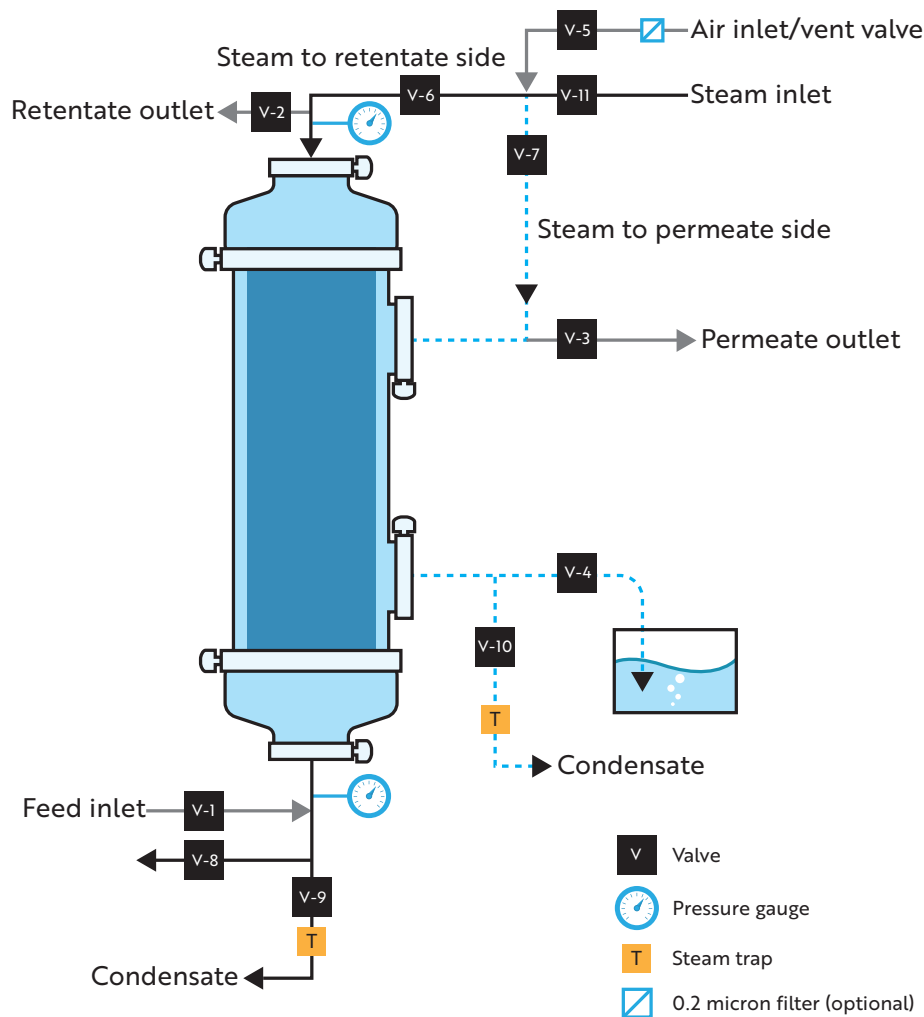

Figure 11: Typical configuration for integrity testing SepraPor® post-SIP.
16. Integrity test the filter post-sterilization is optional but recommended and sometimes required in critical applications. If performing an integrity test, close all valves except the air inlet/vent valve (V5), retentate steam inlet valve (V6), and permeate steam trap bypass valve (V4). See Figure 11.